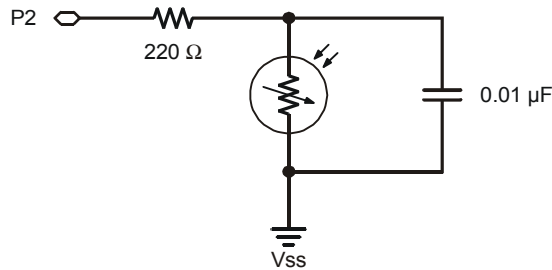
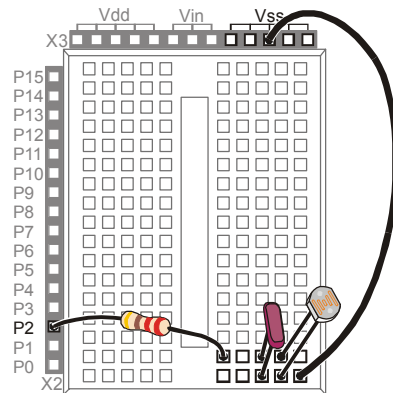

Figure 7-2
Figure 7-3
Figure 7-2 shows a schematic of the RC-time circuit you will use in this chapter, and Figure 7-3 shows the wiring diagram. This circuit is different from the potentiometer circuit from Chapter #5, Activity #3 in two ways. First, the I/O pin used to measure the
√ Build the circuit shown in Figure 7-2 and Figure 7-3.
- √ Before you move on to the next activity, return the circuit to the original one shown in Figure 7-2 by removing the 0.1 μF capacitor and replacing it with the 0.01 μF capacitor.